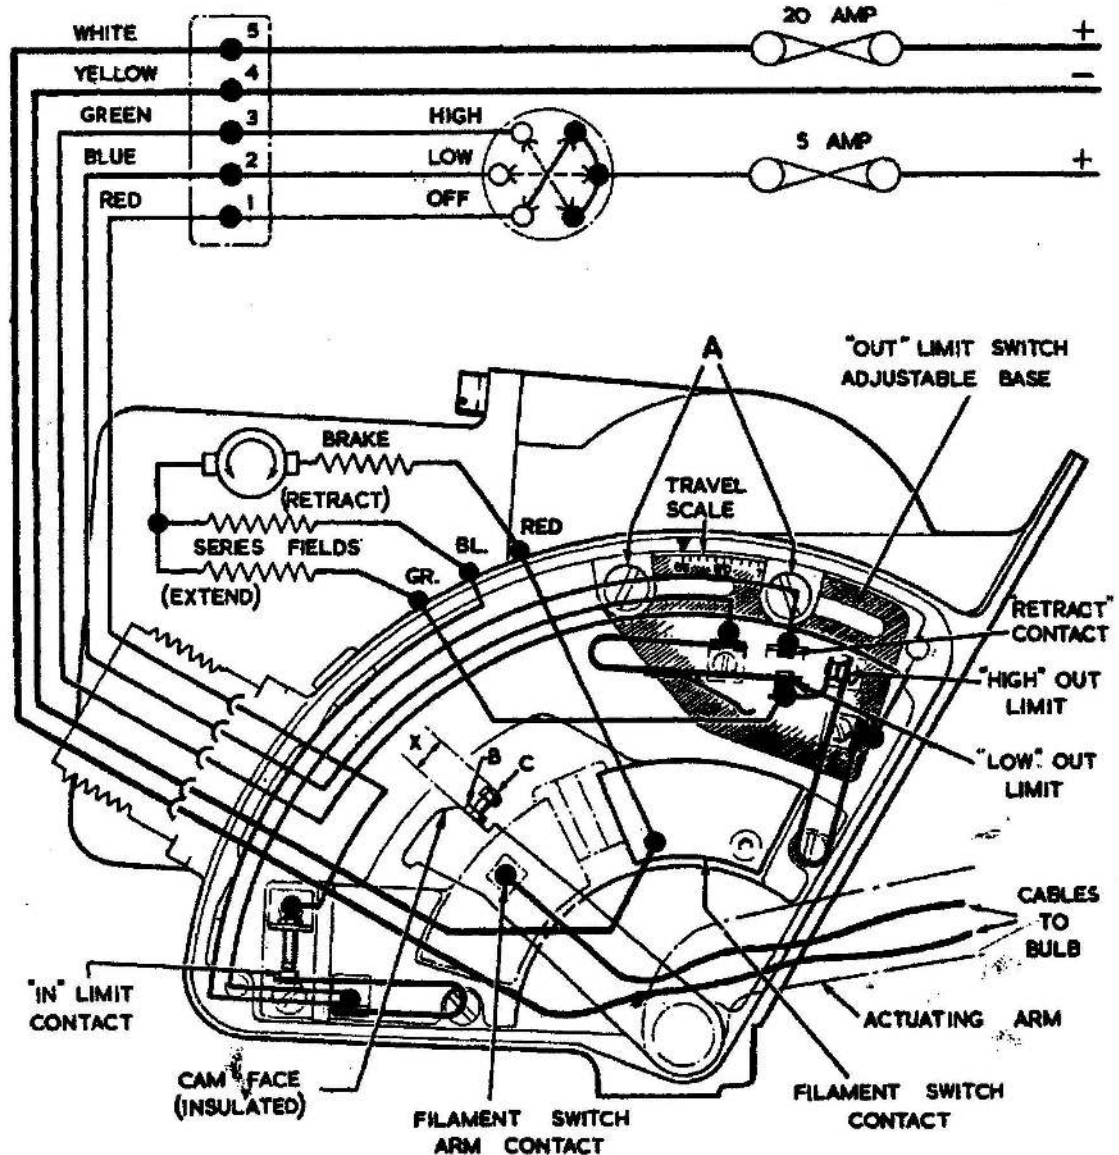

Fig. 2. Switchbox adjustments and circuit diagram
8. Remove the cover of the switchbox and slacken the screws marked "A" in fig. 2. Slide the insulated base of the "out" limit switches to the new position and re-tighten the securing screws. The index mark against
Electrical connections (fig. 2)